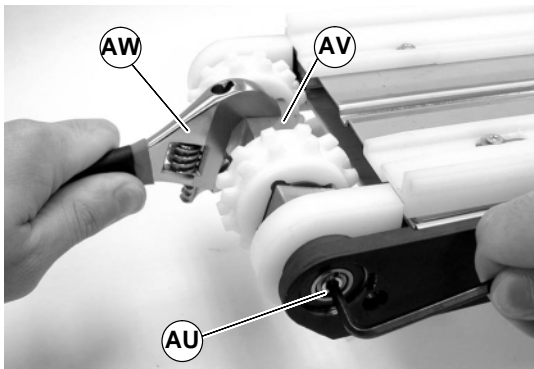

Figure 56
- On both sides of pulley, use a 4mm hex-key wrench to tighten pulley taper screw (AU of Figure 56) to 35 in-lb (4 N-m). Steady pulley (AV) with wrench (AW) with wrench (AW).